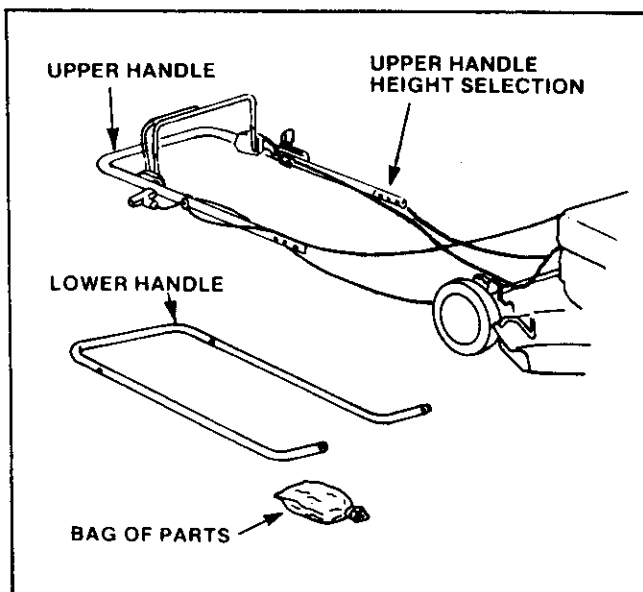
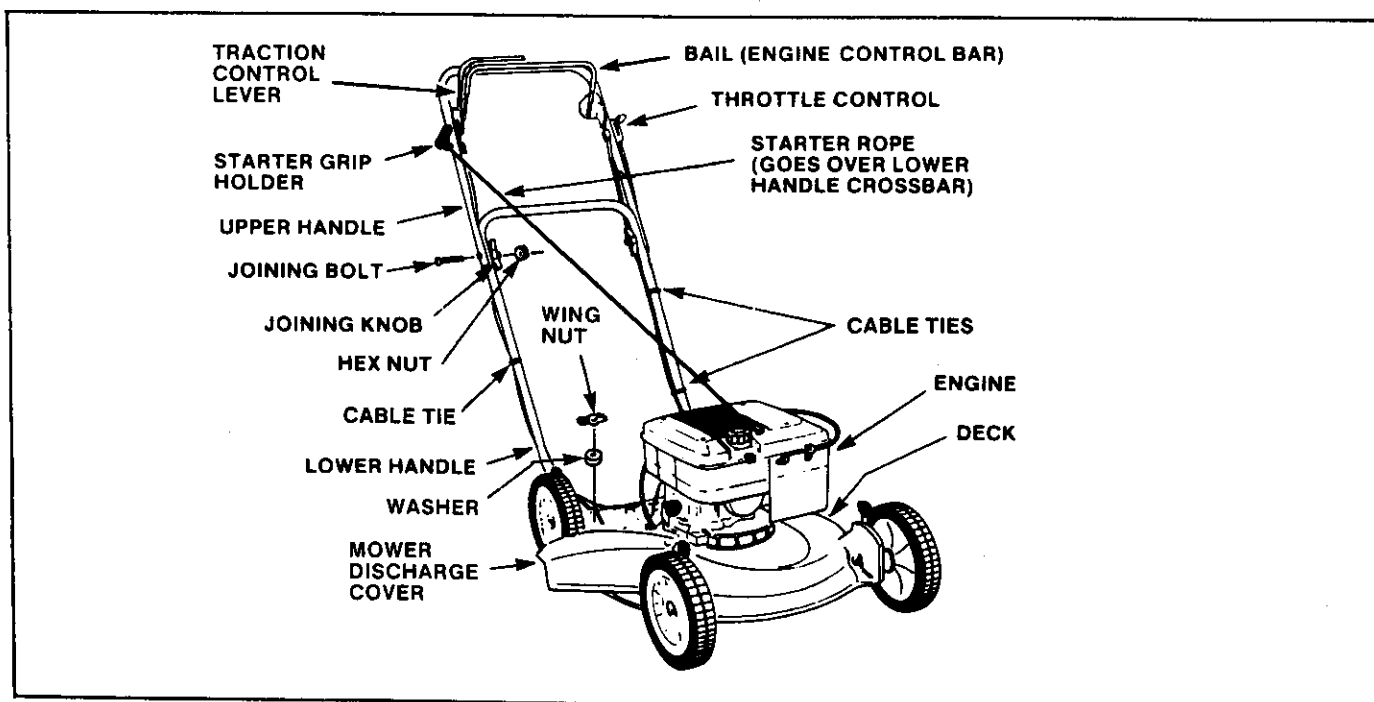

FIGURE 1
FIGURE 2
ASSEMBLING HANDLES TO DECK (Figures 1 - 3)
1. Lay the upper handle straight back from the mower so as not to pull or crimp the control cables. Lay the cables between the sides of the handles so they will go *under* the crossbar of the lower handle when the handles are put together. (See Figure 1.)
- c) Select the desired upper handle height (see Fig. 1) and push a joining bolt through holes on left side of handles, (see Figure 2). Before installing a bolt on the right side, slide starter rope up so that it is above the crossbar of lower handle.
5. Attach cable clamps (from parts bag) to the lower handle on the straight portions of tubing above the bend of the handle. (See Figure 2.)